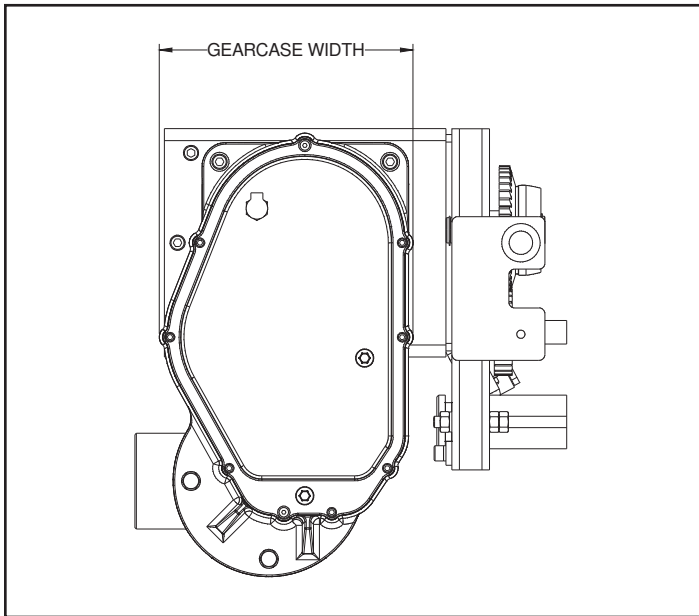

Figure 4-2. Gearcase Width Illustration
- e) Refill through filler hole to proper level (bottom of oil level plug hole) using GCOH (Paragraph 4-7). The amount of oil required depends on the overall size of the gearcase. Both versions of the “A” Frame hoist utilize the same size gearcase, although their contents differ. To confirm the version of your gearcase refer to Figure 4-2. Your gearcase should have a similar shape to that shown and will measure 10 in width and requires approximately 3 quarts of oil.